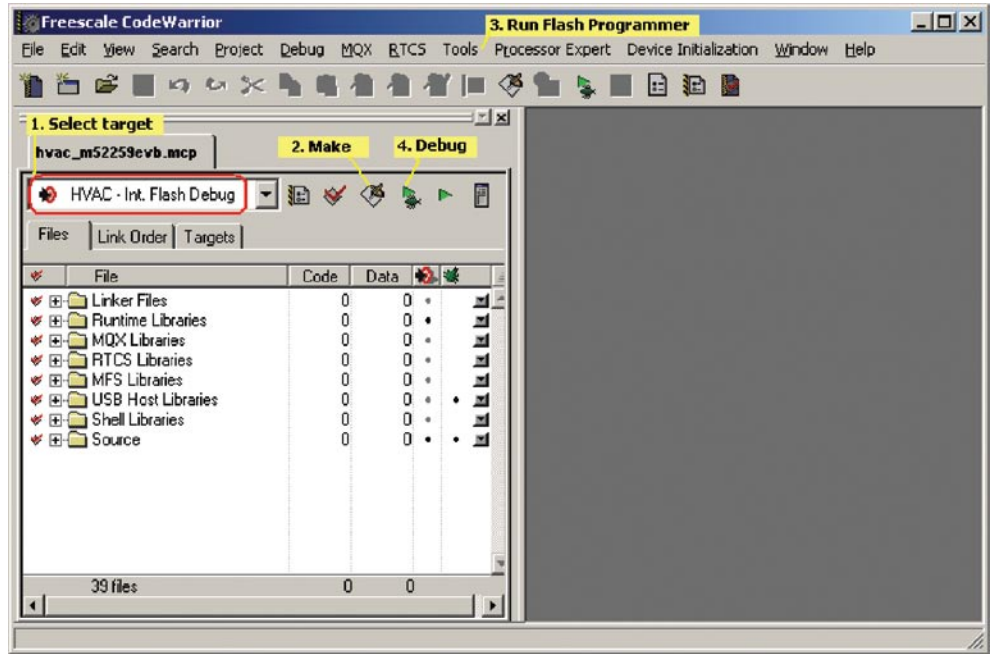

Figure 3: Project Loaded in the CodeWarrior IDE
6. In the project pane, select “HVAC—Int. Flash Debug” build target. See Figure 3 to the right.
12. Now start debugger and execute the application by clicking the **Debug** icon. This icon is identified in **Figure 3** on right.